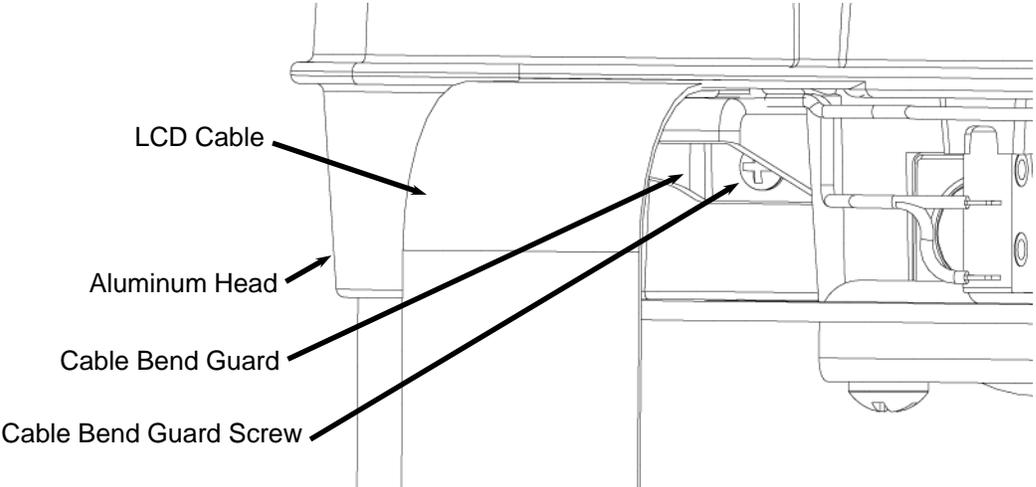

FIGURE 12: REMOVING THE TOP RIBBON CABLE BEND GUARD
8. **Replace the ribbon cable top bend guard.** Place the ribbon cable top bend guard back into position and insert the screw. Make sure that the two head ribbon cables are looped underneath the guard as shown in Figure 12 and that they are not folded.